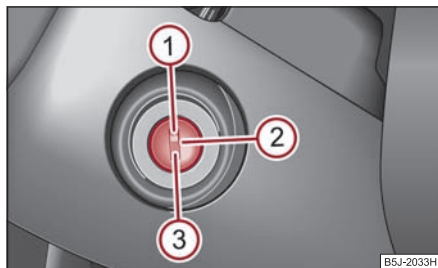

Fig. 124 Ignition lock positions
- The engine can be switched off by turning the ignition key from position ① into ⇒ page 100, fig. 124.